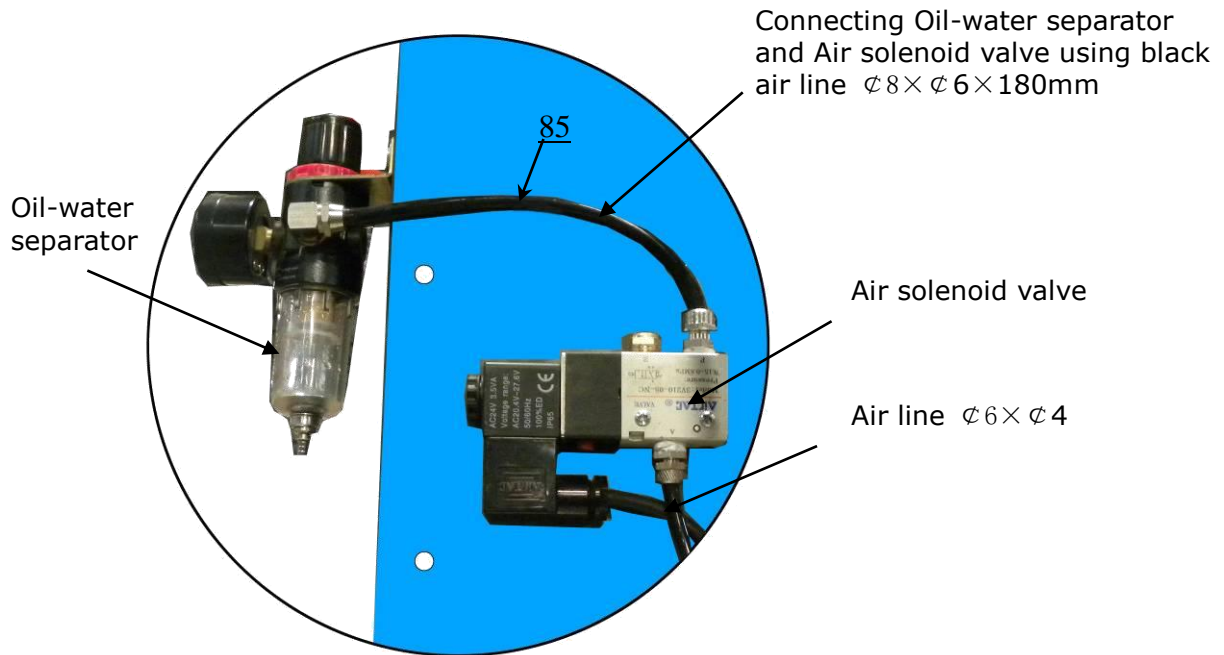

Fig. 28
3. Connecting oil-water separator and air solenoid valve using air line (See Fig. 28).